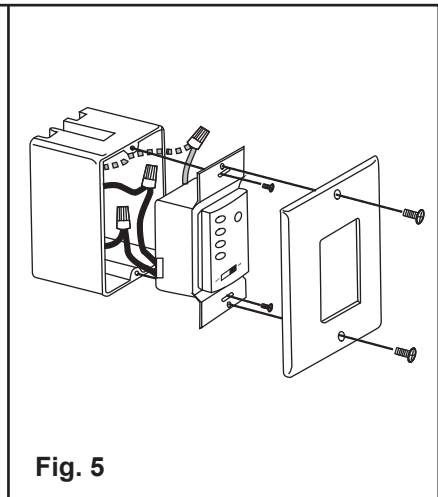

Fig. 5
- c. Carefully tuck the wire connections inside the outlet box. Use the screws provided to secure the wall transmitter and wall plate to the outlet box. (Fig. 5)